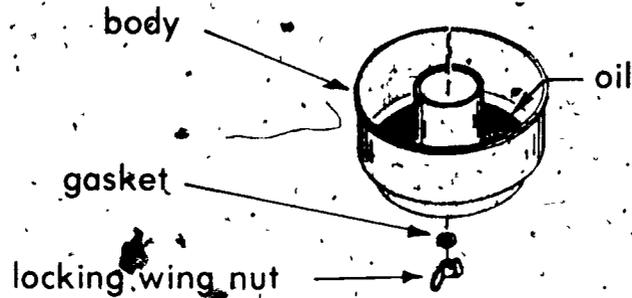

FIGURE 4
- a. Remove wing nut and separate parts for cleaning (Figure 4)